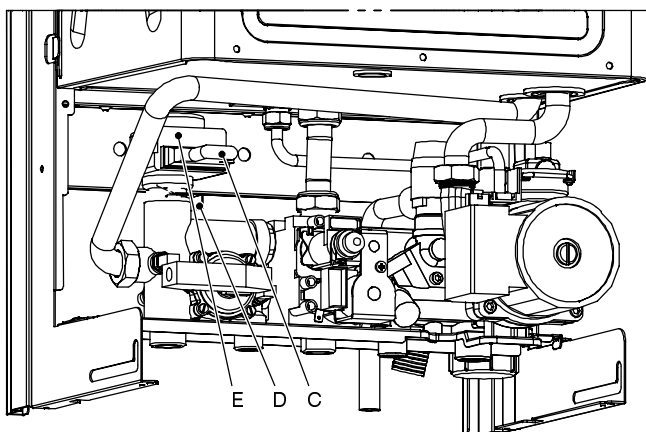

Fig. 24
- 2 Disconnect the connectors C (Fig. 24).